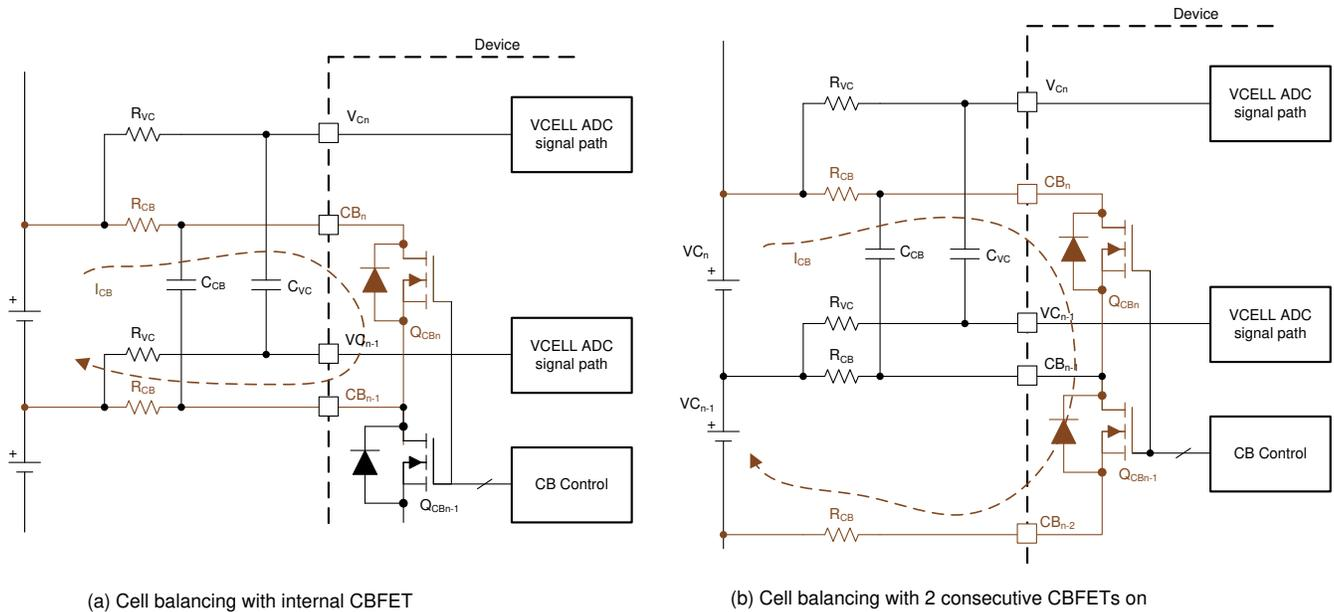

Figure 8-14. Internal Cell Balancing and the Flow of Balancing Current
- Balancing with no consecutive CBFET on (Figure 8-14 (a)): $I_{CB} = V_{Cell} / ((2 \times R_{CB}) + R_{dson_{QCB}})$
- Balancing with two consecutive CBFETs on (Figure 8-14 (b)): $I_{CB} = (\text{Sum of two } V_{CELL}) / ((2 \times R_{CB}) + R_{dson_{QCBn}} + R_{dson_{(QCBn-1)}})$
- Manual balancing control (*[AUTO_BAL] = 0*): With this method, the device will turn on the CBFETs that have non-zero balancing timer settings once *[BAL_GO] = 1* is received. There is no odd and even channel switching during the cell balancing and the *BAL_CTRL1[DUTY2:0]* setting does not apply under this control. Host MCU can enable two consecutive CBFETs with this method. When two consecutive CBFETs are enabled with both channels connected to battery cells, the balancing current is significantly different compared to no adjacent CBFET being on (Figure 8-14). The *DEV_CONF[NO_ADJ_CB]* bit is provided to avoid inadvertent enabling of an adjacent CBFET for a system that is not intended to have an adjacent channel on for balancing. In this control method, the device is relying on the MCU to enable the proper channels. If the MCU sends *[BAL_GO] = 1* but the CBFETs are enabled with an invalid condition, the device will not start balancing and will set *BAL_STAT[INVALID_CBCONF] = 1*. Invalid configurations are either: